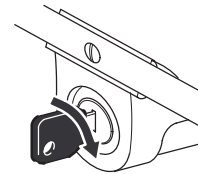

Figure 15
- **Electric Starting (electric-start model only)**—Insert the key into the switch. Turn the key to the right and release it when the engine starts (Fig. 15).